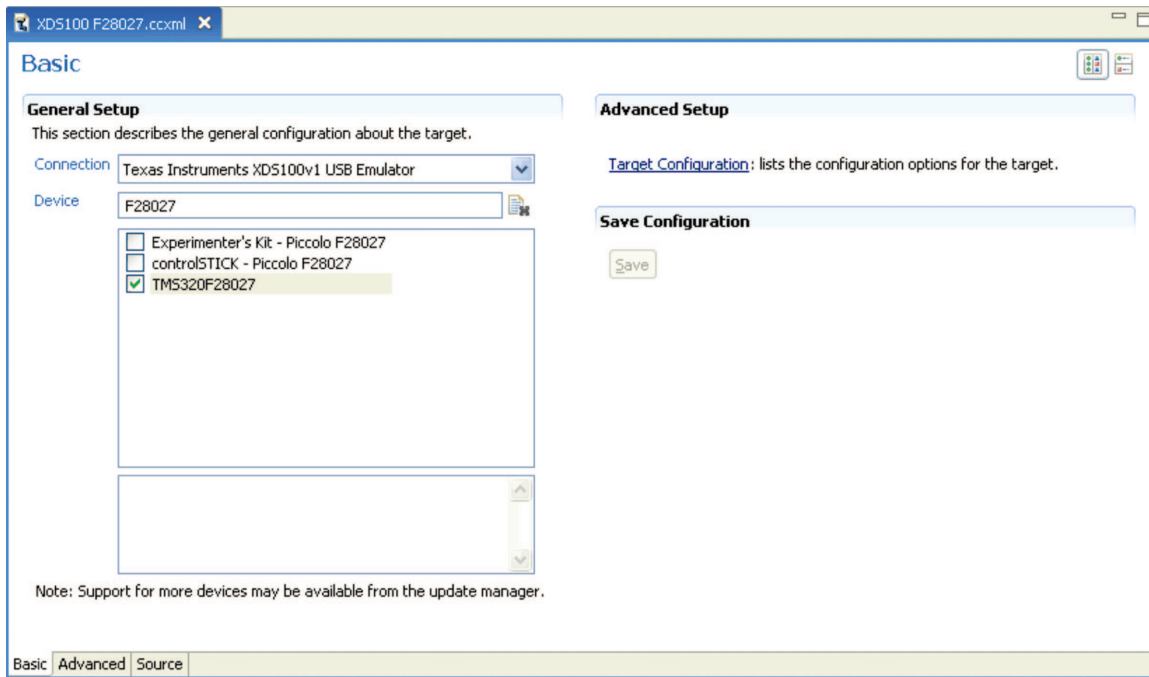

Figure 14. Configuring a New Target
4. This should open up a new tab as seen in Figure 14. Select and enter the options as shown: